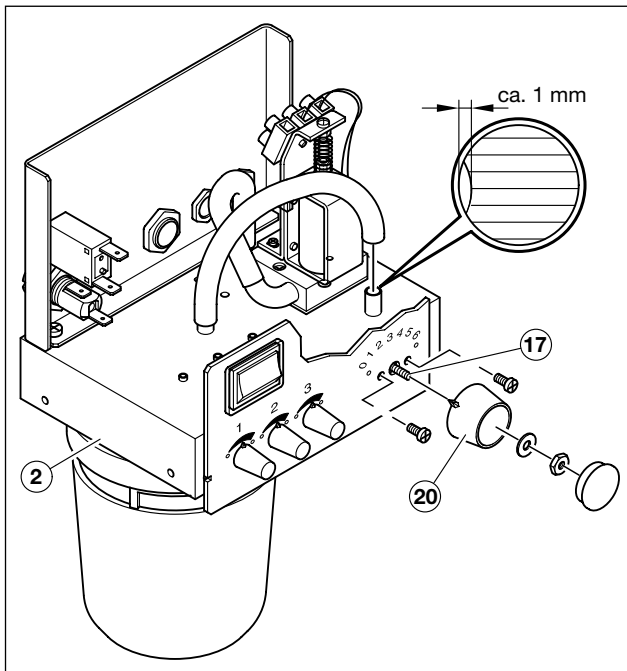

Fig. 11 Adjustment of mixture control valve
- 18 Turn the mixture control valve in such a way that the start of the curve is approx. 1 mm from left edge of the hole in the distributor 2 (see Fig. 11).